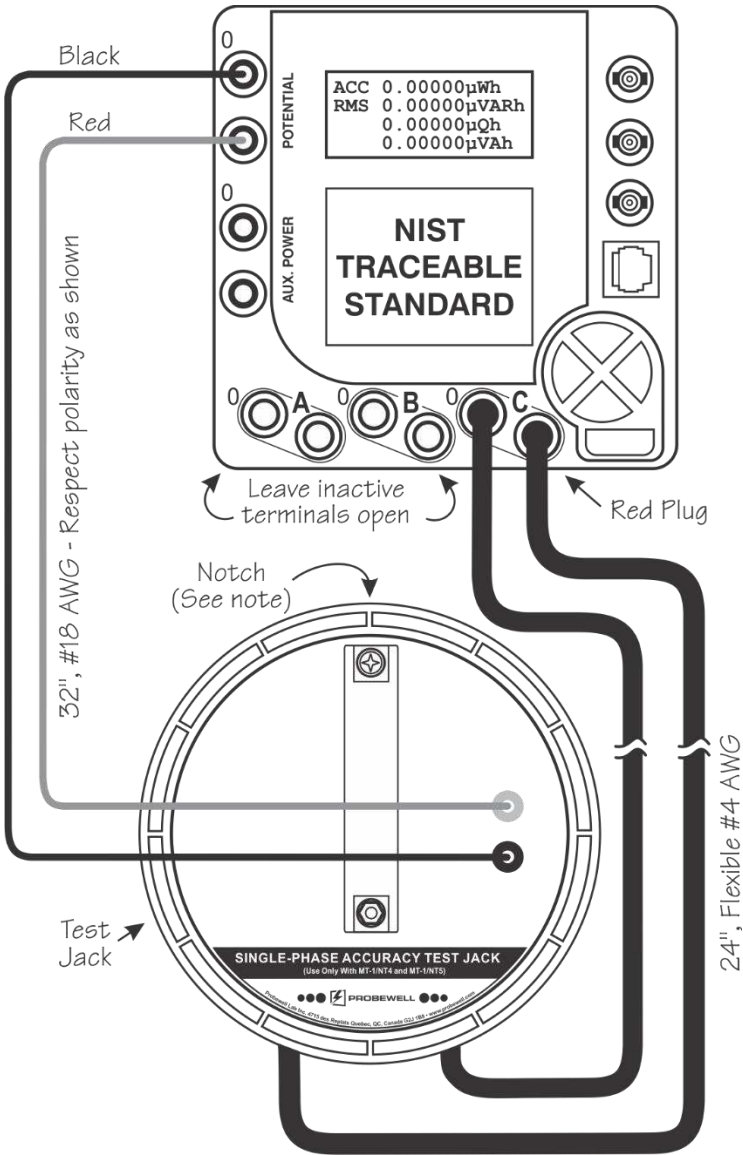

Fig. 6.2 – Connection of Test Jack to the Standard
2. Install the test jack on top of the MT-1/NT5, the current and potential wires between the MT-1/NT5 and the standard while respecting the polarity (see Fig. 6.2). As for connecting the Aux. Power ports, please refer to the Standard's manufacturer for details.